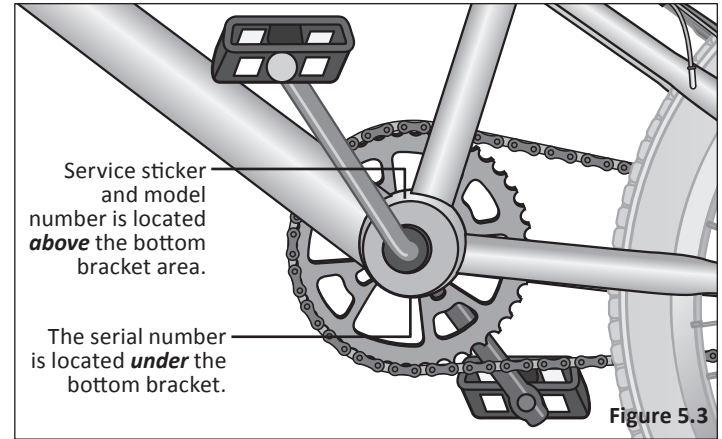

Figure 5.3
- Maintain a record of the bicycle's model number. Serial number is underneath the bottom bracket. Model number is above the bottom bracket. **Figure 5.3**